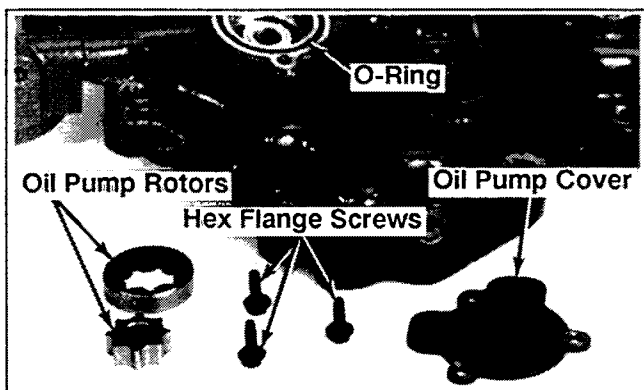

Figure 9-37. Removing Oil Pump.
- Remove the three hex flange screws, oil pump cover, O-ring, and oil pump rotors. See Figure 9-37.